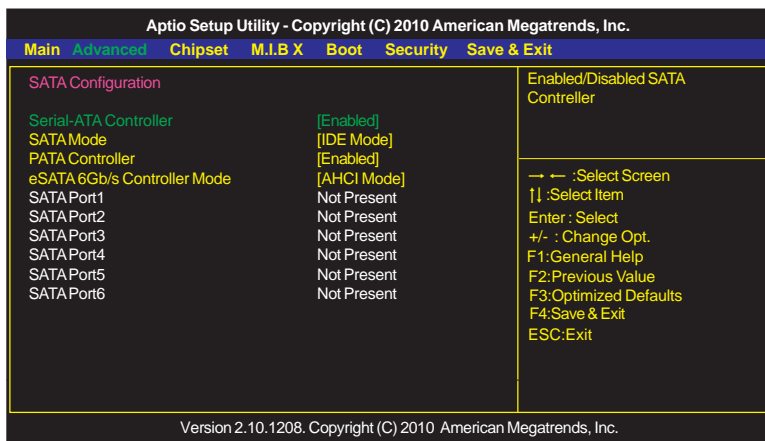

Figure 1.2 SATA Configuration Screen
- 3 Use the arrow keys to select the SATA Configuration (see Figure 1.2) and globally set SATA Configuration to RAID.